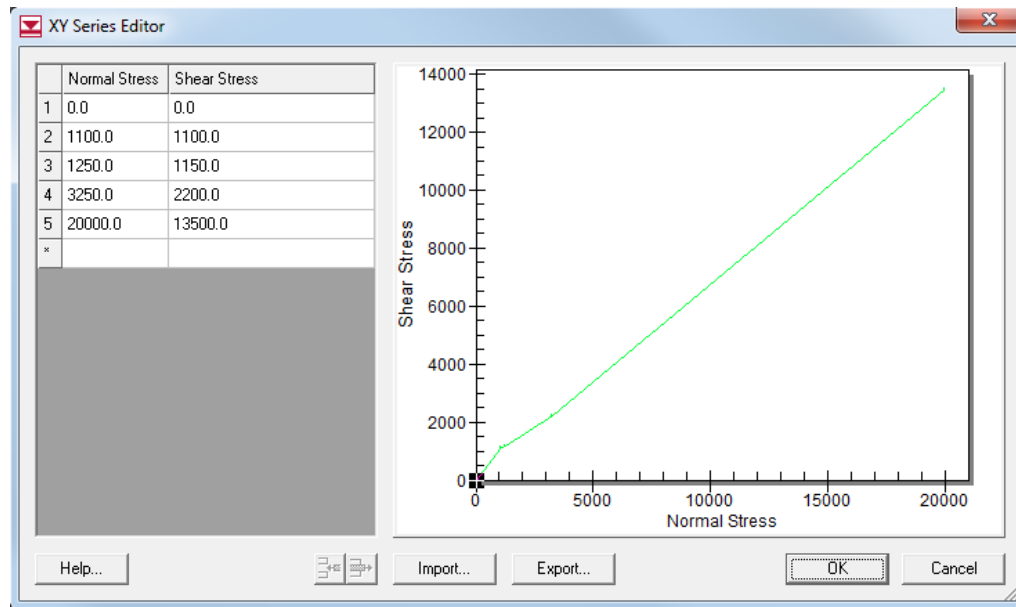

Figure 9. XY Series Editor.
- In the *XY Series Editor*, enter the values in the table below. The dialog should appear as shown in Figure 9.